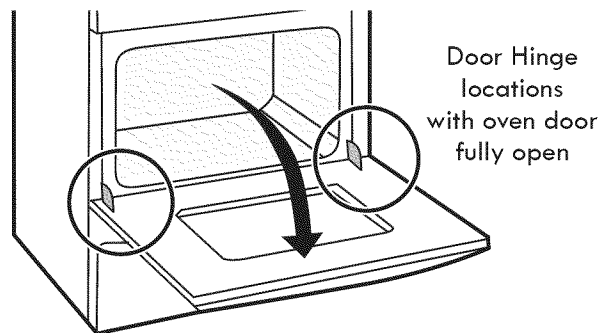

Figure 1
1. Open oven door completely (horizontal with floor - Fig.1).
3. Fully open the oven door (horizontal with floor - Fig. 1).